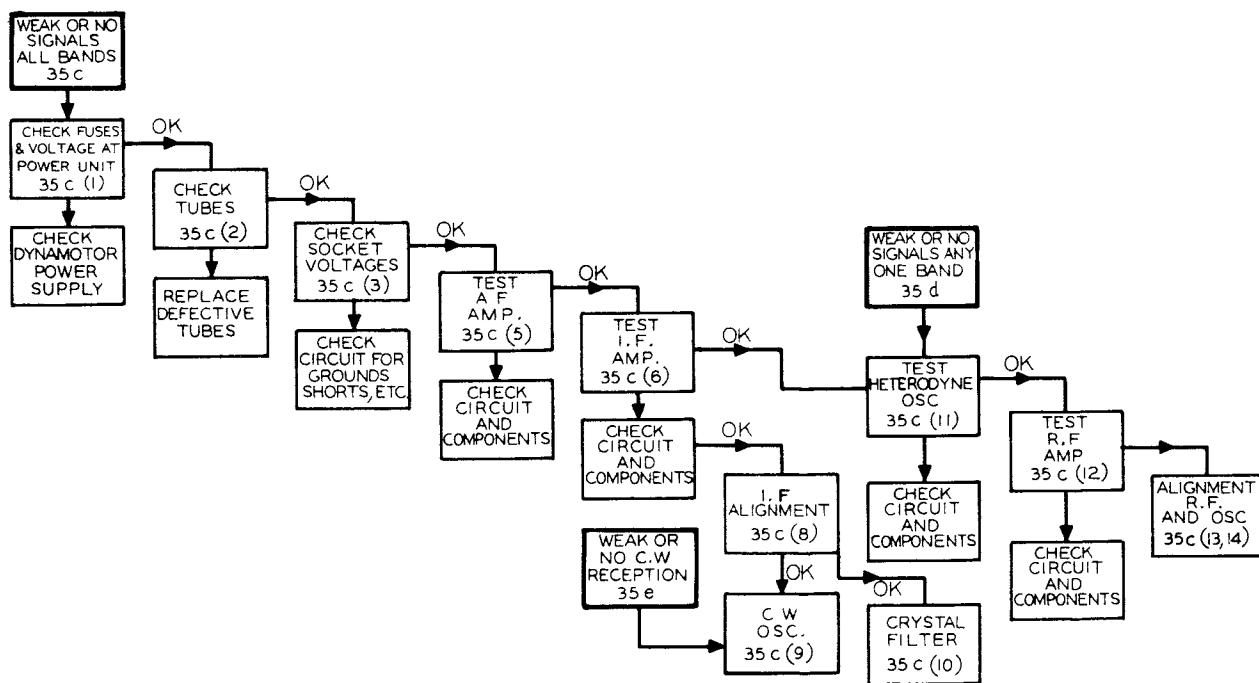
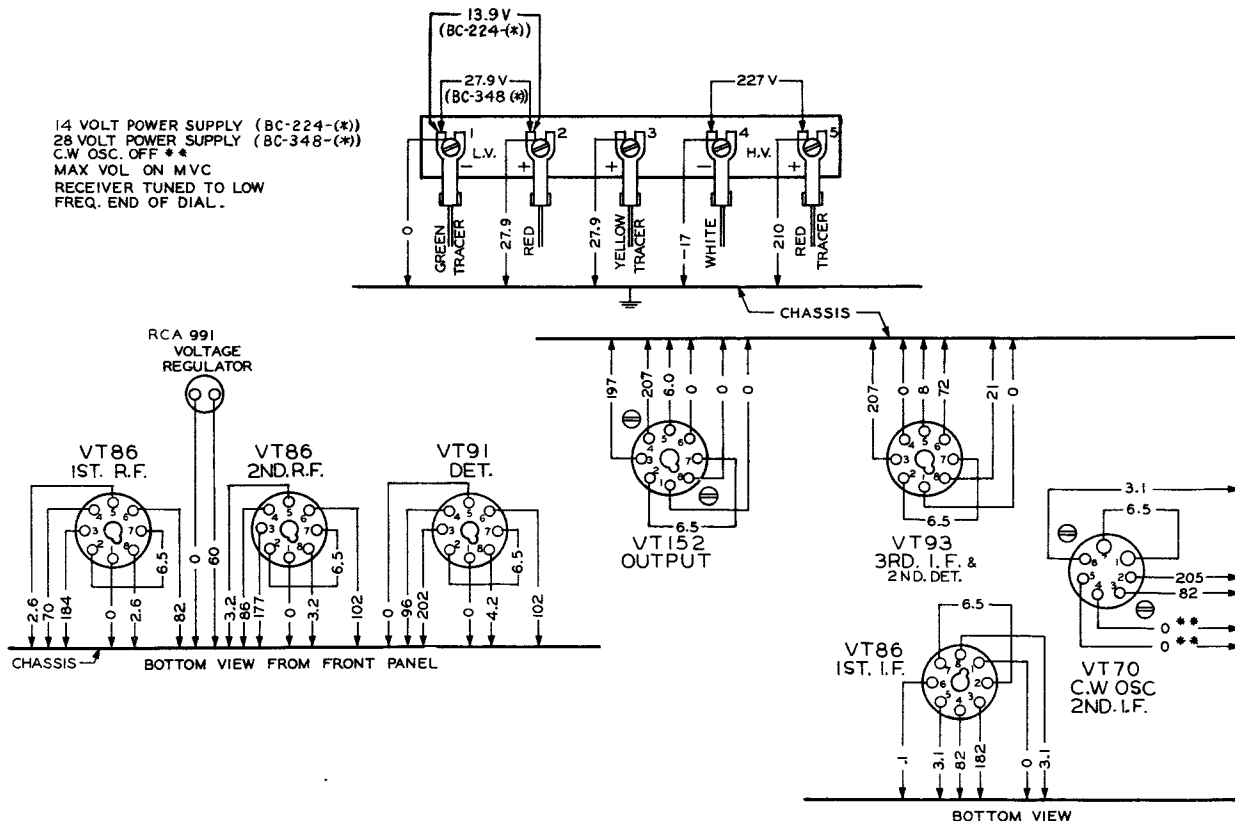

Figure 14—Trouble Location and Correction Chart
Figure 15—Radio Receiver BC-348-(*) or BC-224-(*),
Figure 14 graphically outlines the procedure for trouble location, the numbers in each block referring to the paragraph numbering in the following discussion:
(1) CHECK OF DYNAMOTOR VOLTAGES.—When all signals on all bands are weak or no signals are heard even when known to be present, the procedure follows that shown in Figure 14. The voltages checked at the dynamotor terminal board should closely approximate the values shown in Figure 15. Conditions for measurement are as follows: Input 28 volts for Radio Receiver BC-348-(*) or 14 volts for Radio Receiver BC-224-(*); CRYSTAL OUT; MVC; Volume Max; C. W. OSC. OFF; Load 4,000 ohms resistance. If these readings do not approximate the values shown, check the fuse as well as the dynamotor and filter circuits, wiring and components.
(2) TUBE CHECK.—If the voltages at the dynamotor terminal board approximate the values given, check all tubes for emission and characteristics or replace all tubes with those of known average characteristics.
(3) CHECK OF SOCKET VOLTAGES.—If tubes check satisfactorily, or if, after replacing with tubes known to be good, the sensitivity is still low, check all tube socket voltages as outlined under Paragraph 34f with Test Set I-56-A. The average socket voltages are given in Figure 15.
(4) CHECK CIRCUIT WIRING AND COMPONENTS.—If the tube socket voltages do not approximate the values shown in Figure 15, check the associated circuits and components for grounds, shorts, and similar defects.
(5) TEST OF AUDIO-FREQUENCY AMPLIFIER.—Having checked all socket voltages and found the values to be correct, test the audio frequency amplifier. This can be checked by capacitively-coupling a 400-cycle voltage of approximately 2 volts rms from the detector diode socket prong to ground using a capacitor of 0.5 mfd. As an